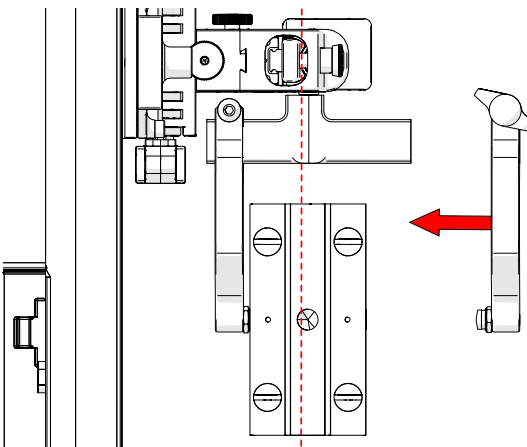

Fig. 113 - Align probe with yoke
6. Align the middle of the wedge with the centre of the yoke (Fig. 113).